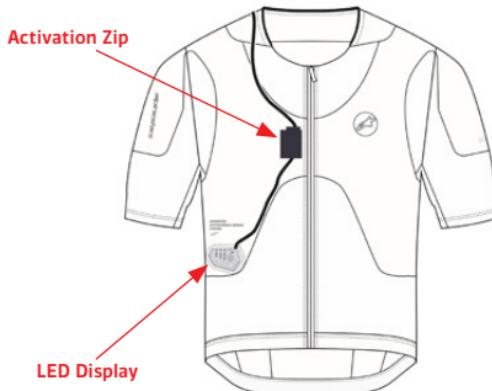

Figure 25: Removal of the LED Display (3) and Activation Zip (2)
4. Remove the LED Display (3) and the Activation Zip (2) – Remove the LED Display (3) by accessing the opening inside the garment, next remove the Activation Zip (2) located inside the Velcro pocket as shown in Figure 25.